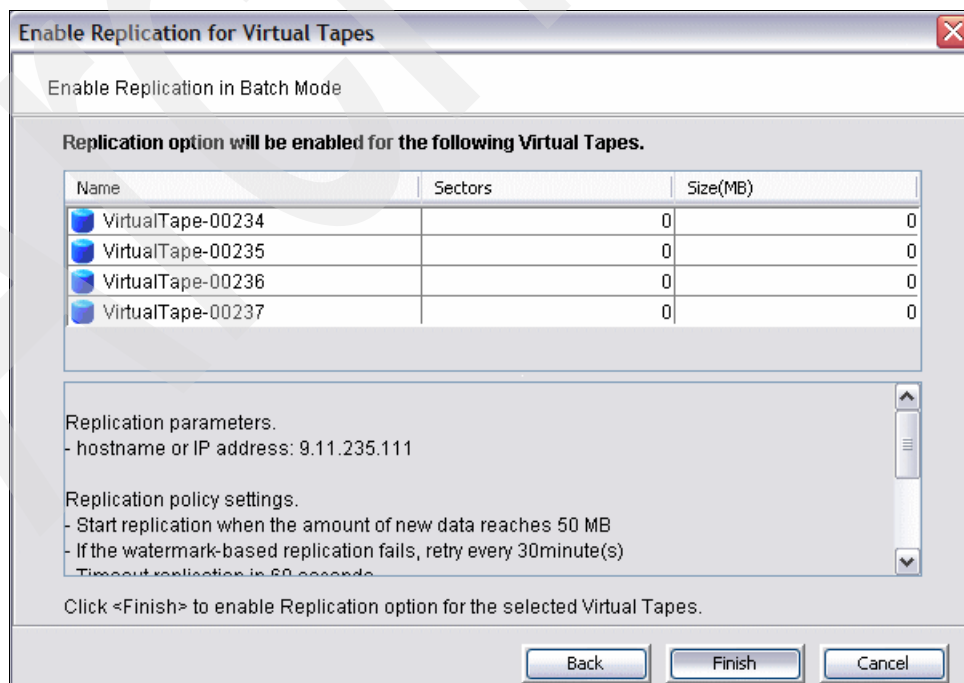

Figure 7-16 Virtual volumes selected for replication
8. As shown in Figure 7-16, the TS7530 displays the virtual volumes that were selected for replication. Click **Finish**.